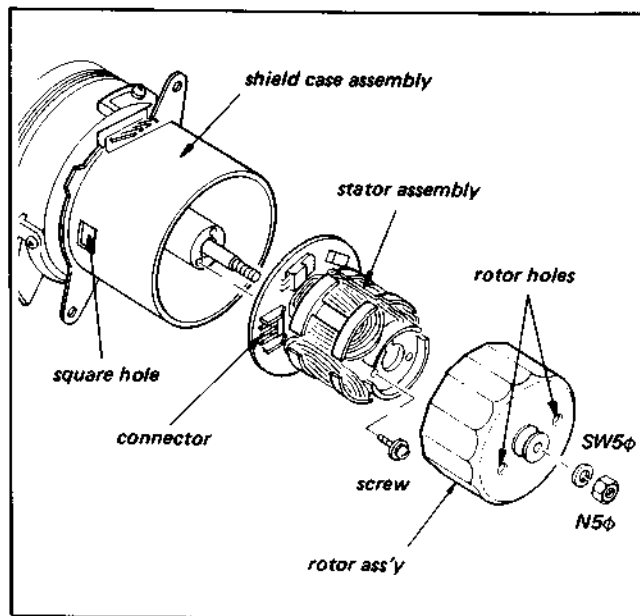

Fig. 3-4. Replacement of drum ass'y (2)
- 2) As shown in Fig. 3-4, remove the rotor assembly by inserting longnose pliers or a screwdriver into the rotor hole, remove N5φ nut and SW5φ washer, then pull off the rotor assembly.
- 3) Remove the screw in Fig. 3-4 and pull off the stator assembly.